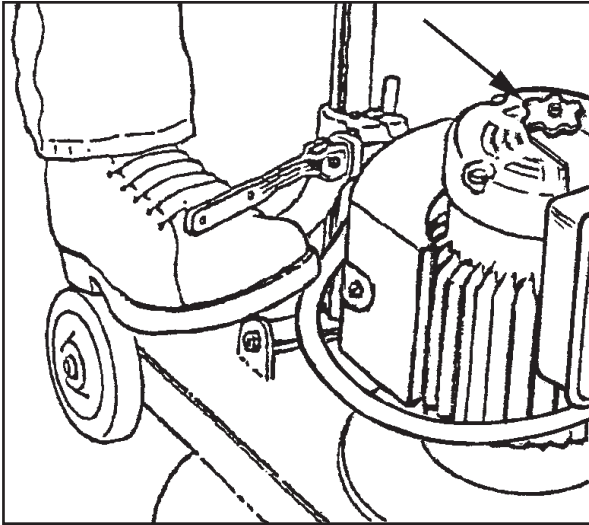

Figure 11
1. Loosen the knob on the top of the motor (see figure 11) and pivot the lamp to the desired position.
4. Loosen and remove the mounting knob (see figure 11) on top of the motor.